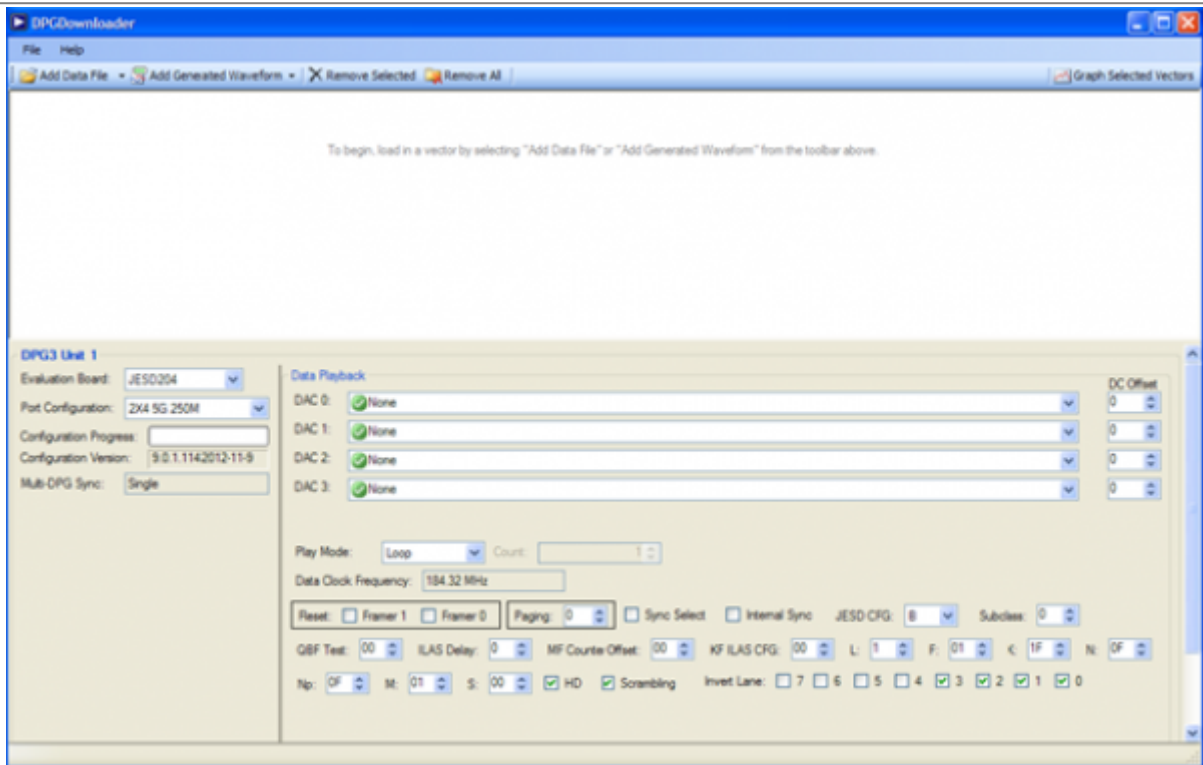

Figure 3. DPG Downloader Panel
2. Open DPG Downloader if you have not done so. (Start > All Programs > Analog Devices > DPG > DPGDownloader). Ensure that the program detects the AD9144, as indicated in the "Evaluation Board" drop-down list as "JESD204", and select it. The "Data Clock Frequency" window will show the incorrect clock rate (19MHz) until after the SPI software has been started then it will change to the correct frequency. The DPG Downloader panel should look like Figure 3.